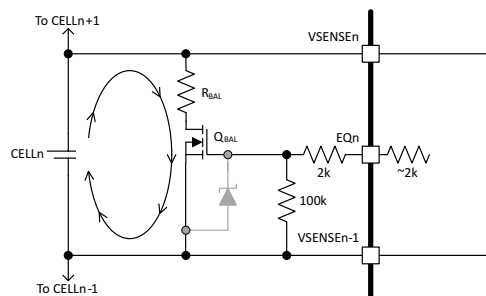

Figure 13. EQ Circuit Operation (Some Components Omitted for Clarity)
Sixteen internal drivers are provided to control individual cell balancing through the pins labeled EQ1...EQ16. Figure 13 shows the external circuitry to turn on an external NMOS FET Q_{BAL} to discharge Cell N through resistor R_{BAL} . When a balance command is issued via register CBENBL, the EQ(N) output is asserted, switching to the VSENSE(N) rail and turning Q_{BAL} on. When the register bit is de-asserted, the EQn bit is switched to the VSENSEn-1 rail, turning Q_{BAL} off and reducing the balancing current to zero. The squeeze (OWD) function must be disabled for correct balancing operation by setting TSTCONFIG[EQ_SQUEEZE_EN] = 0.